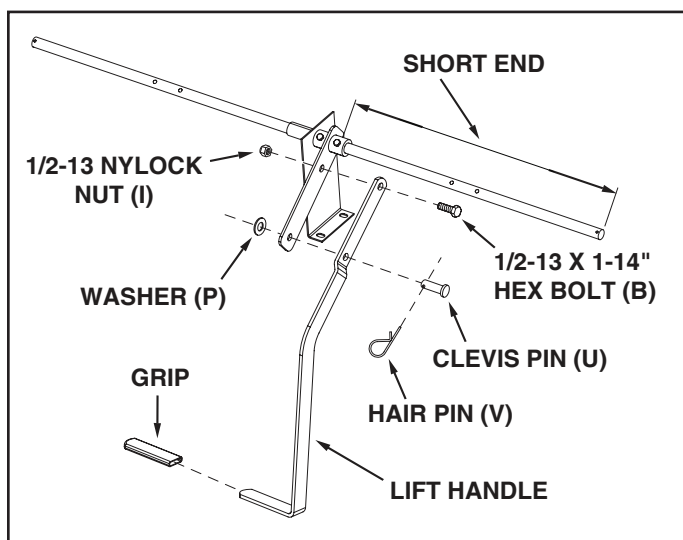

FIGURE 5
- Fasten the handle to handle bracket using one 1/2-13 x 1-1/4 in. hex bolt and one 1/2-13 nylock hex nut in the lower hole and a clevis pin, washer and hair pin in the upper hole. Slide the plastic grip onto handle. See figure 5.